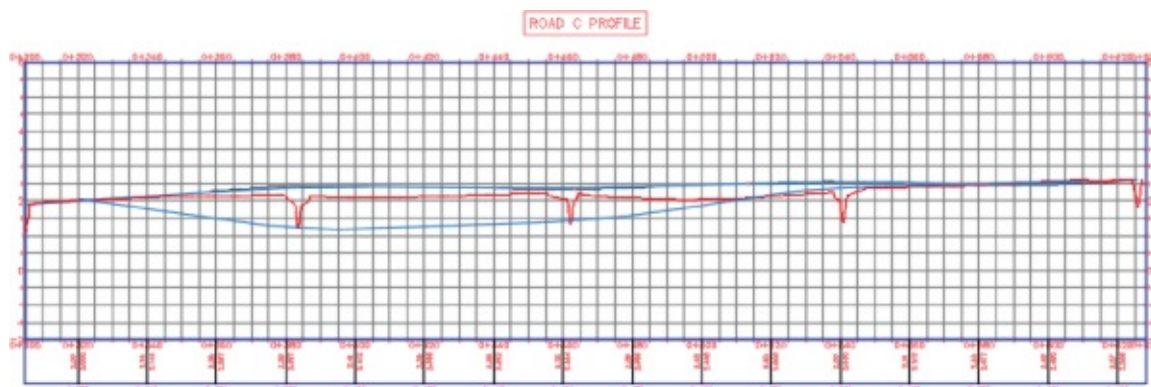

Figure 7.73 The ROAD C TRAIL FG layout profile superimposed on the ROAD C Full Grid profile view
6. Zoom in on the ROAD C Full Grid profile view to see the superimposed data, as shown in Figure 7.73.